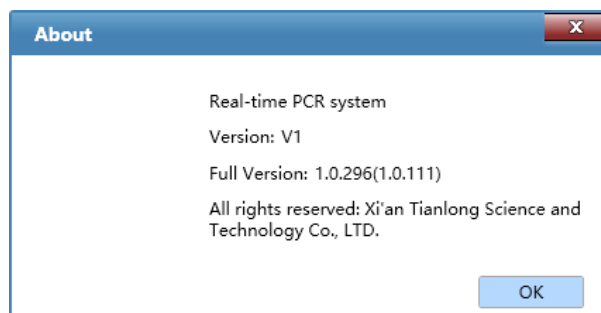

Figure D-3.12. Help Submenu - About Interface
2. **About:** display the application software version and copyright information, as shown in figure D-3.12.